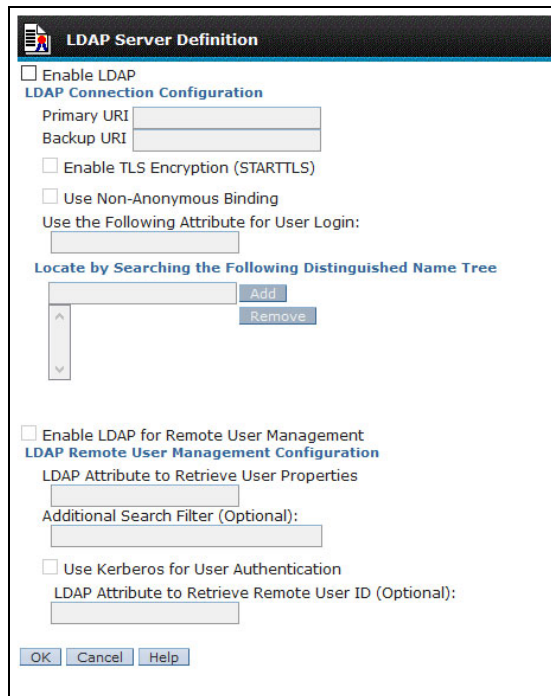

Figure 6-24 LDAP Server Definition window
2. The window that is shown in Figure 6-24 opens. Perform the following actions: